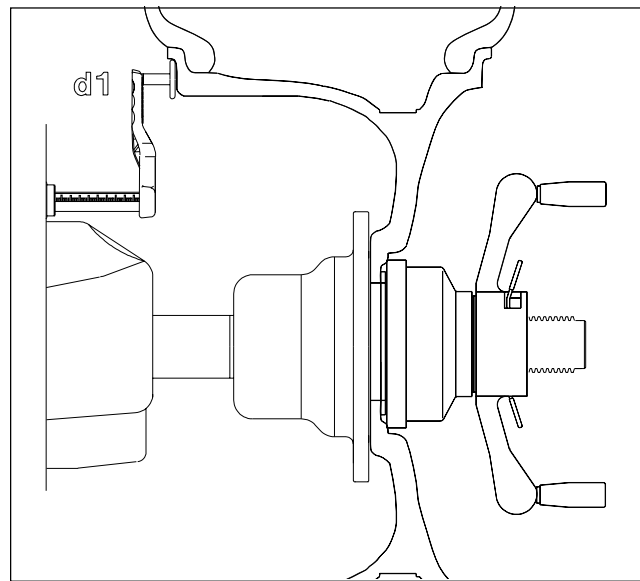

Figure 30
2. Extend the rim offset gauge arm and touch the position of the left weight position. See Figure 30. The display will read "d - l" on its right window and the distance reading on its left window. Return the rim offset gauge arm to the rest position.